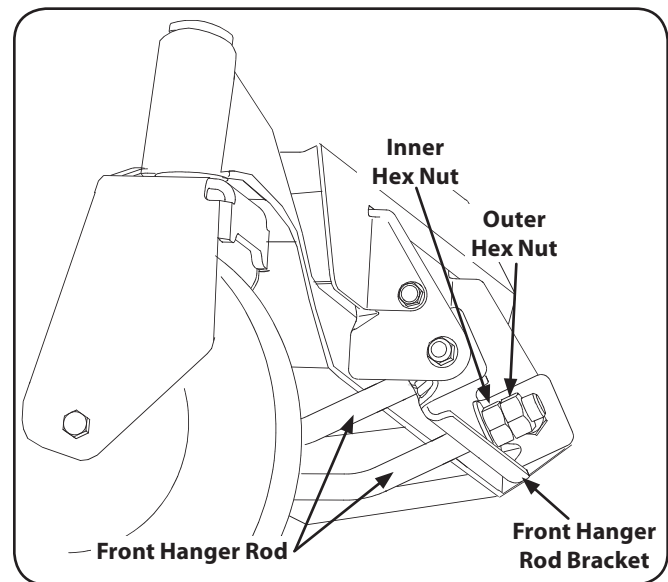

Figure 6-7
5. From the front of the tractor, loosen the outer hex nuts on the deck front hanger rod and turn them away from the inner nuts. Refer to Figure 6-7.
6. If the front of the deck was too low, turn the inner hex nuts clockwise against the hanger bracket to shorten the front hanger rod and raise the front of the deck. Refer to Figure 6-7.